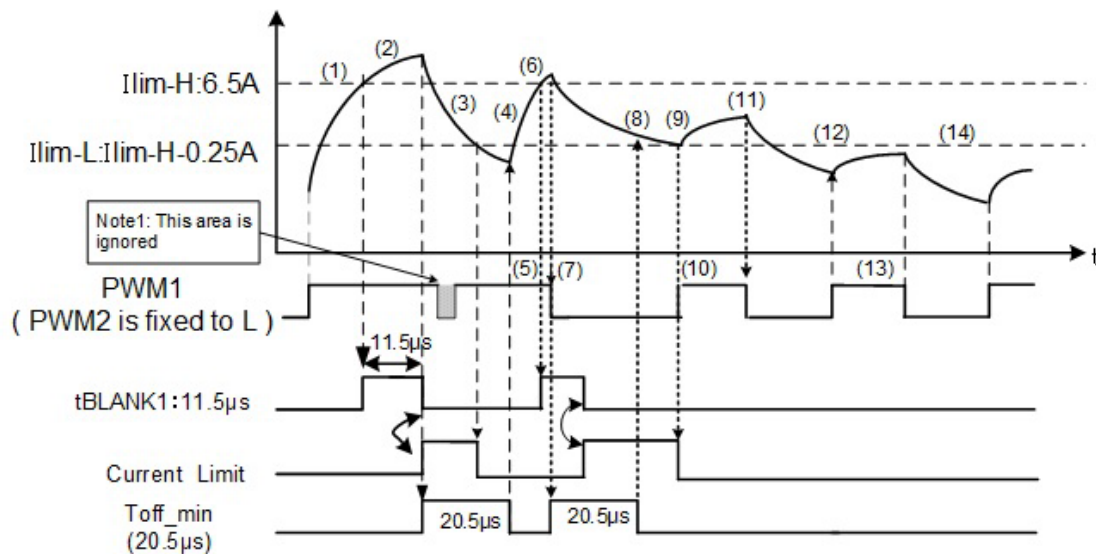

Figure 7.14 Chopper-type current-limit control
7.7.1. Chopper-type current-limit control (basic operation) (Figure 7.14)
- (1) Large current is detected at I_{lim-H} (6.5 A).
- (2) The blanking counter starts counting at the detection. Since a current above I_{lim-H} (6.5 A) still flows in this case, the current limit signal rises at the falling edge of $tBLANK1$ after a blanking time ($tBLANK1$: 11.5 μs). At the same time, $Toff_min$ rises to H to start counting.
- (3) After the blanking, the motor drive output automatically enters a short-brake mode (low side simultaneous ON) for current regeneration.
- (4) Once the $Toff_min$ (20.5 μs) period has elapsed, the output operates in accordance with the state of the PWM terminal if the current falls below I_{lim-L} .
- (5) Since PWM1 is H, the motor drive current increases.
7.7.2. PWM signal input during forward rotation (Case 1) (Figure 7.14)
7.7.3. PWM signal input during forward rotation (Case 2) (Figure 7.14)
- (11) At the falling edge of PWM1, short-brake mode begins.
- (12) When PWM1 = H, normal mode resumes.
- (13) Since PWM1 is still H, the motor drive current increases.
- (14) When PWM1 = L, the operation becomes short-brake mode, and the motor drive current decreases.